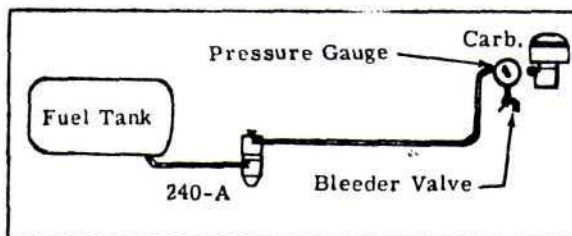

FIGURE 21
2. If a test fixture is not available, test the pump while it is mounted on the vehicle, place gauge and bleeder valve at the carburetor end of the fuel line (Figure 21).